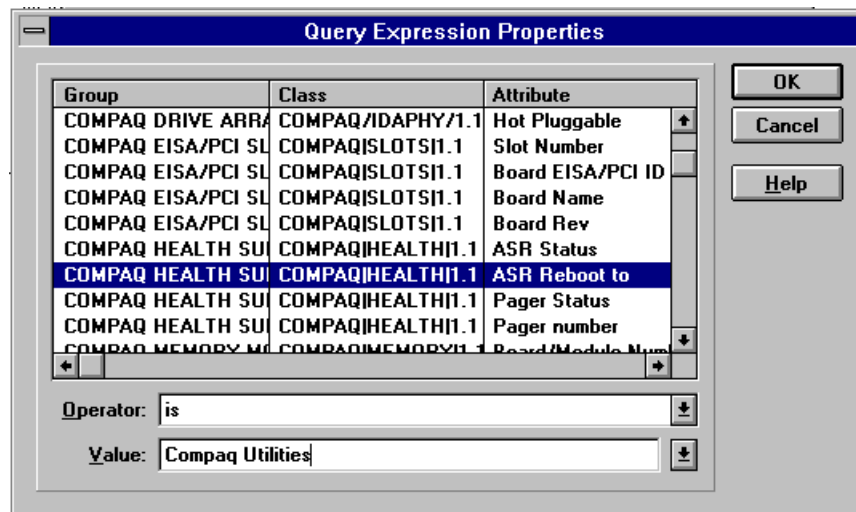

Figure 6-9. Finding the ASR Reboot to attribute
10. Scroll through the list until you find the *ASR Reboot to* attribute. An example of the Query Expression Properties window is shown in Figure 6-9.